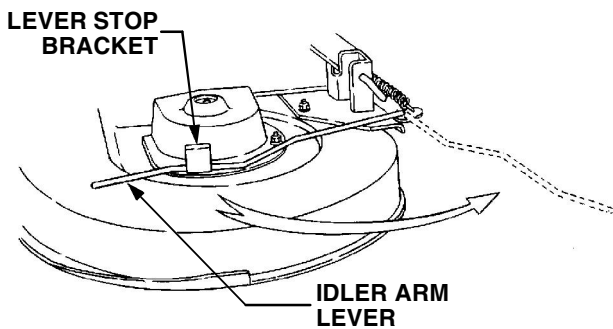

Figure 6-10
2. Lower the mower deck by moving the implement lift handle to its lowest setting. Disengage the deck idler arm lever from its stop bracket and release the spring tension by rotating the lever out and rearward (See Figure 6-10).